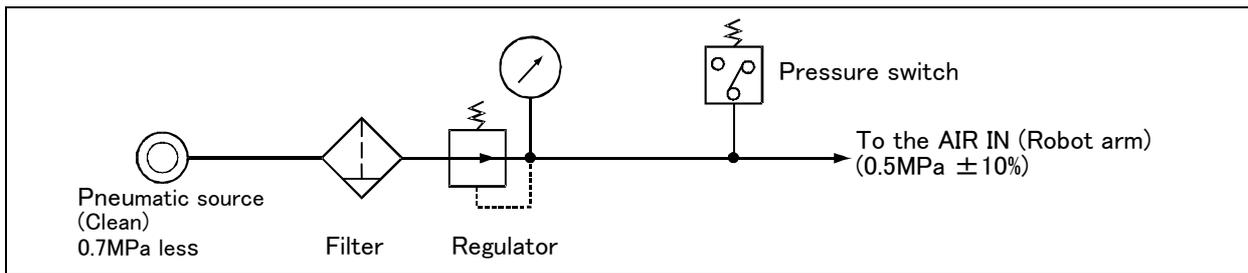

Fig.2-22 : Air supply circuit example for the hand
- 2) When the factory pneumatic pressure drops, as a result of the hand clamp strength weakening, there can be damage to the work. To prevent it, install a pressure switch to the source of the air as shown in Fig. 2-22 and use the circuit described so that the robot stops when pressure drops. Use a hand with a spring-pressure clamp, or a mechanical lock-type hand, that can be used in cases where the pressure switch becomes damaged.